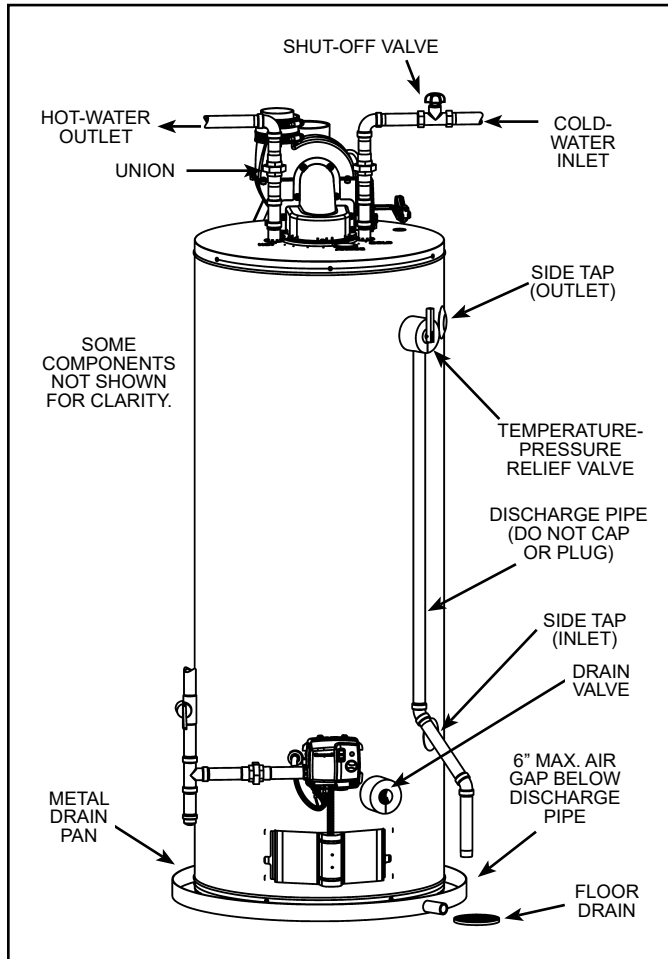

Figure 20.
1. Close the water heater drain valve by turning handle to the right (clockwise). The drain valve is on the lower front of water heater (see Figure 20).